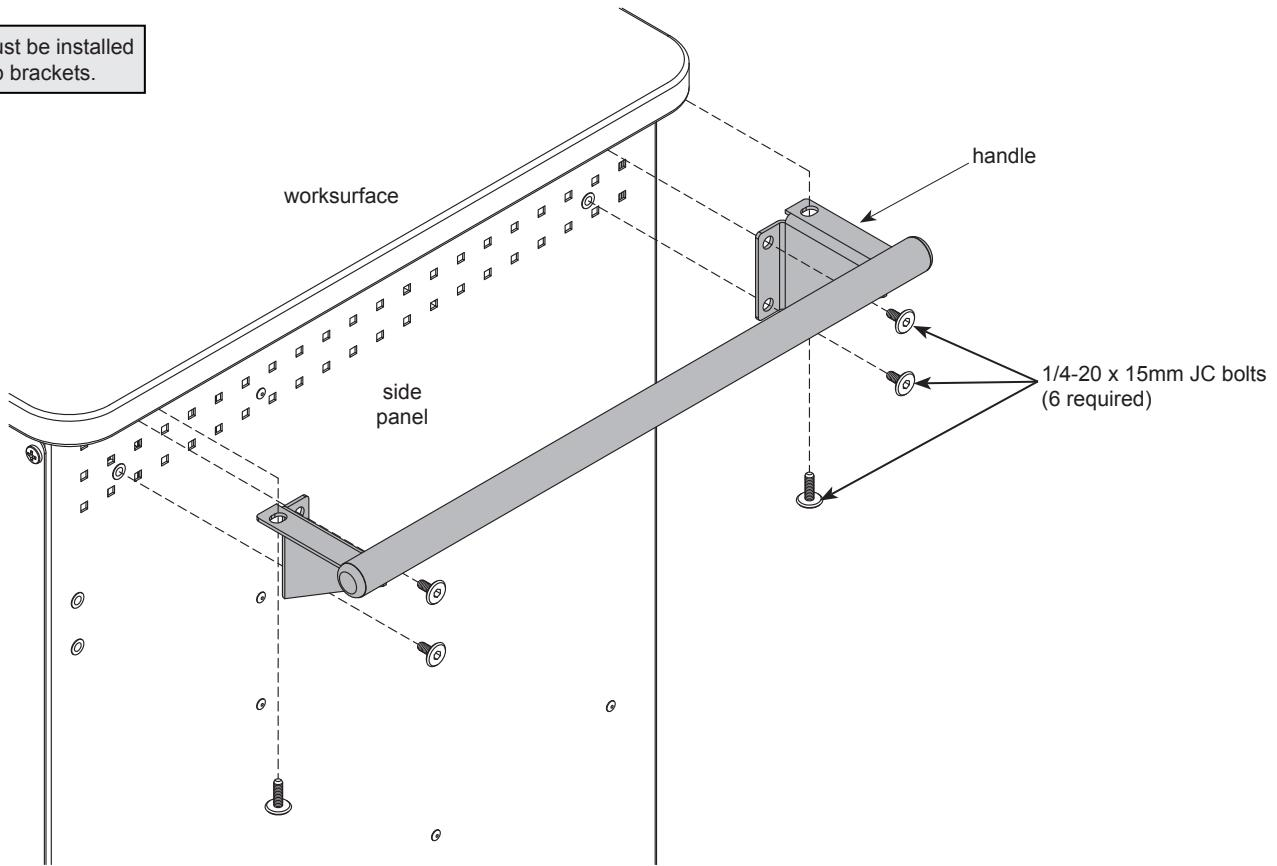

Figure 1
2. Attach the handle to the cart side panel with (4) 1/4-20 x 15mm JC bolts. Do not tighten the bolts completely. **Figure 1**.
3. Install (2) 1/4-20 x 15mm JC bolts to attach the handle to the worksurface.